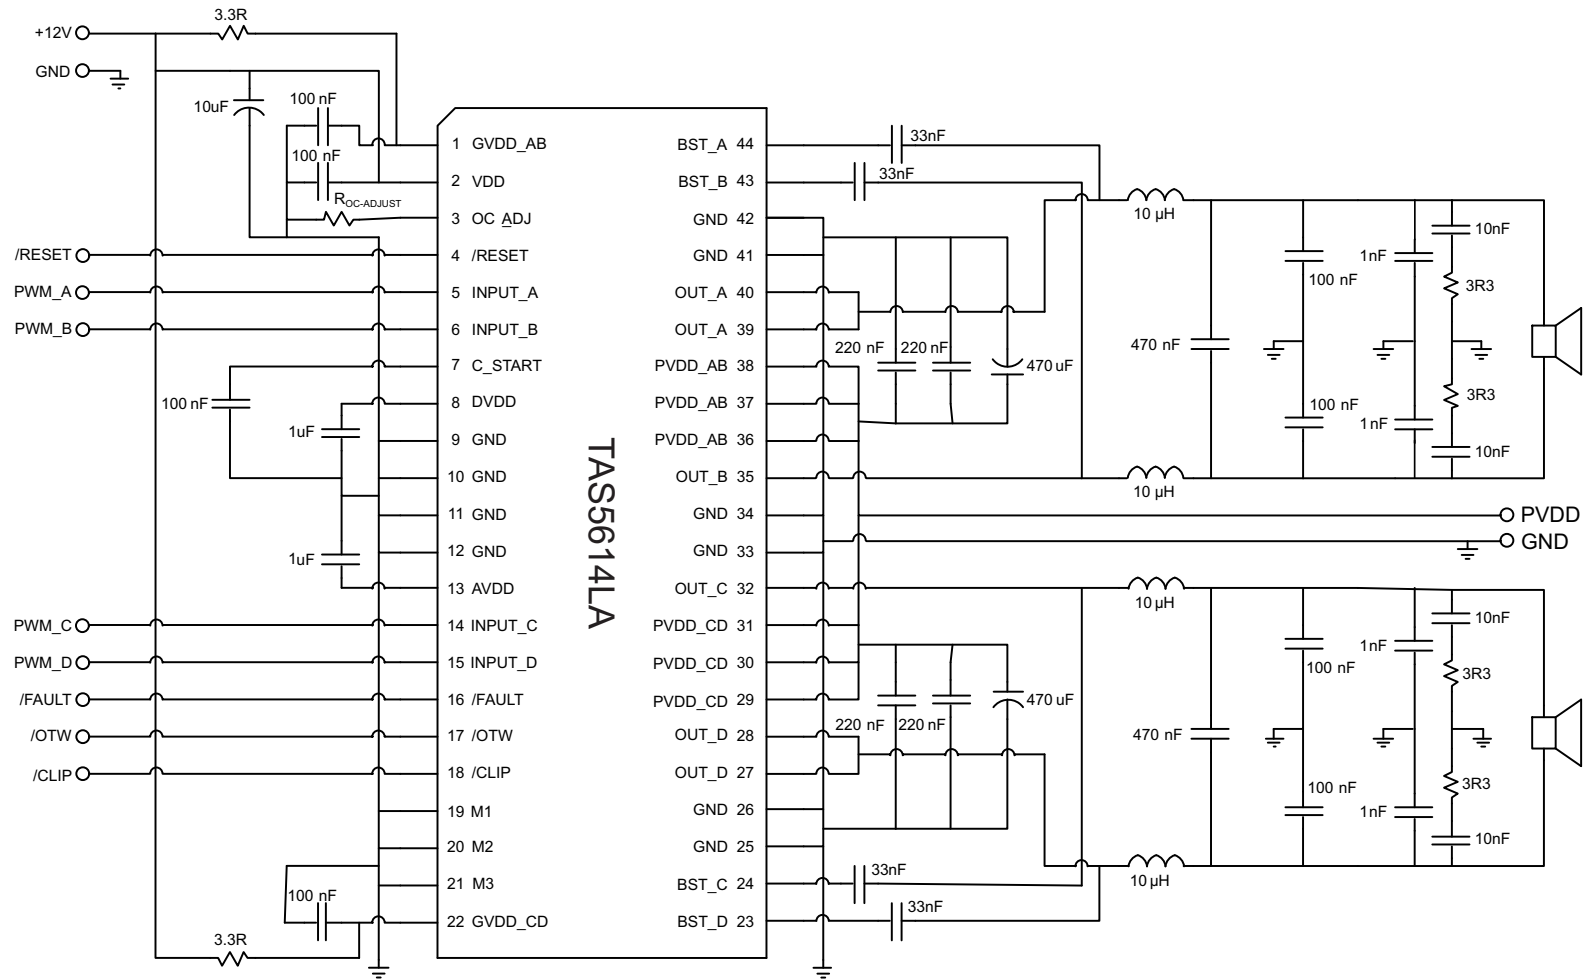

Figure 16. Typical Differential (2N) BTL Application With AD Modulation Filters
See Figure 16 for application schematic. In this application, differential PWM inputs are used with AD modulation from the PWM modulator (TAS5558). AD modulation scheme is defined as PWM(+) is opposite polarity from PWM(-).
- Pins 27, 28, 32, 35, 39, 40 - Output pins from half-bridges A, B, C, and D. Connect appropriate bootstrap capacitors and differential LC filter as shown in Figure 16.
- Pins 29, 30, 31, 36, 37, 38 - Power supply pins to half-bridges A, B, C, and D. A and B form a full-bridge and C and D form another full-bridge. A 470-μF bulk capacitor is recommended for each full-bridge power pins. Two 0.22-μF decoupling capacitors are placed on each full-bridge power pins. See Figure 16 for details.